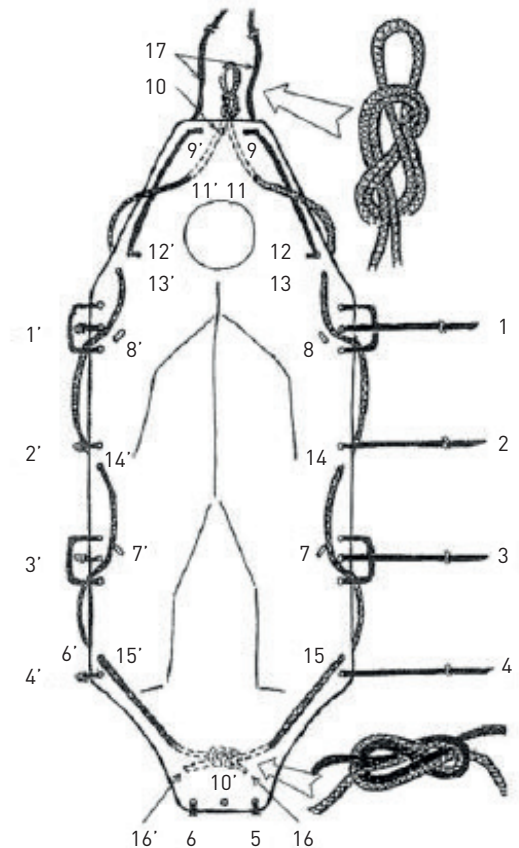

Figure 2
- Fold the auxiliary rope by half and tie a figure-of-eight knot (Figure 2).
- Pass the loose ends of the rope through the separate holes with metal rings from the top of the stretcher to the bottom (Figure 2).
- Having passed the rope through all the holes, join it by a figure-of-eight knot at the bottom of the stretcher (Figure 2).
- Pass the shorter (violet) strap under the top part of the rolled out stretcher body. Thread the loose ends through the longitudinal openings (Figure 2, Items 8 and 8'). The loose ends should now be on the outside of the stretcher body.
- Pass the longer (black) strap through the longitudinal openings (Figure 2, Items 7 and 7') in the same way.